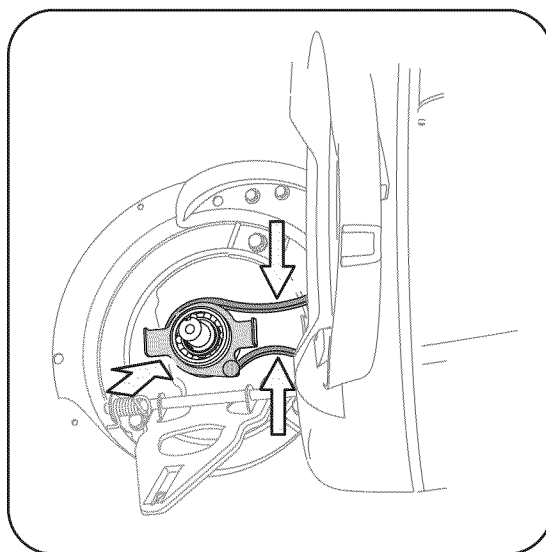

Figure 22
18. Pinch both sides of the belt together so that the belt is not in the pulley groove, and the lower pulley can be pushed towards the engine. See Figure 22.